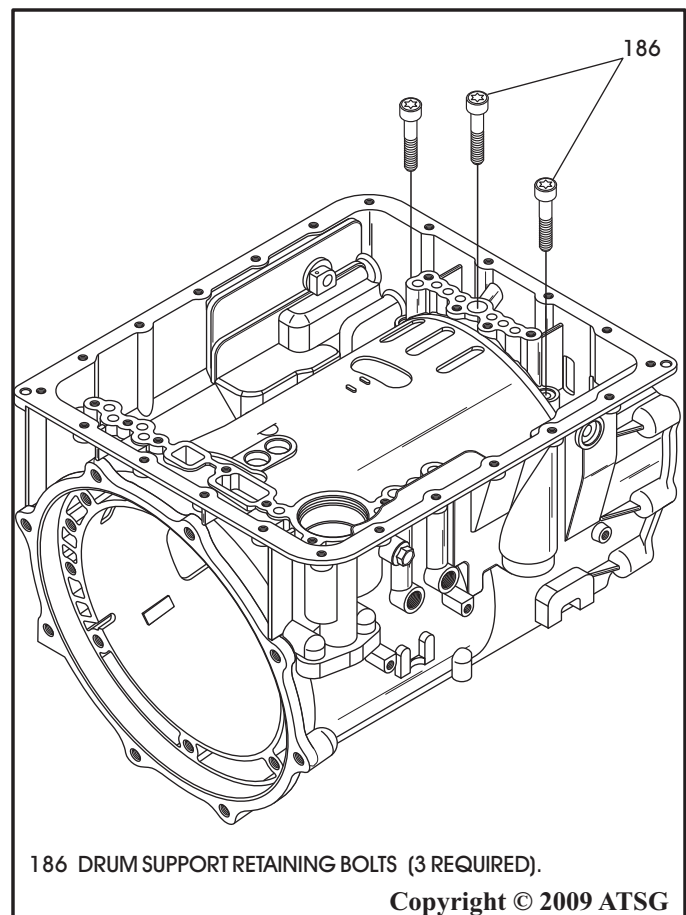

Figure 196
19. Install the three Torx head drum support bolts, as shown in Figure 196, finger tight only at this time.